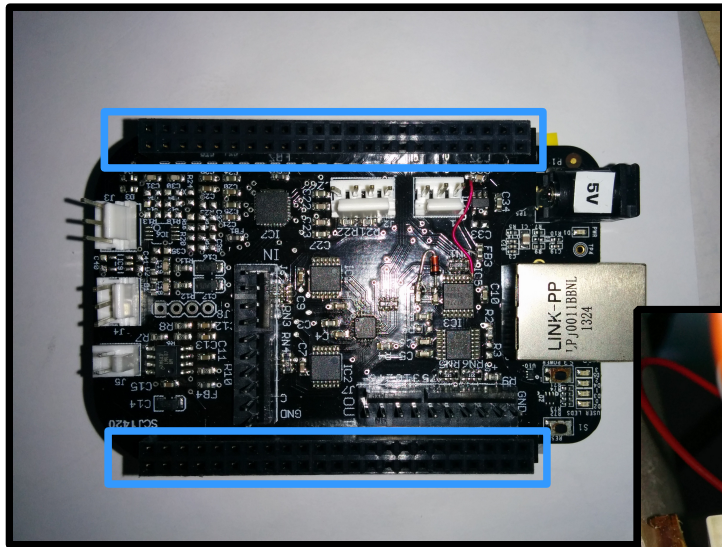

Fig. 3 - The 2 dangerous headers
- in particular, attaching components to the 2 black *headers* on its sides [Fig. 3] could be lethal for the board. These inlets are not even programmed. For these reasons we suggest leaving this part of the board in peace;